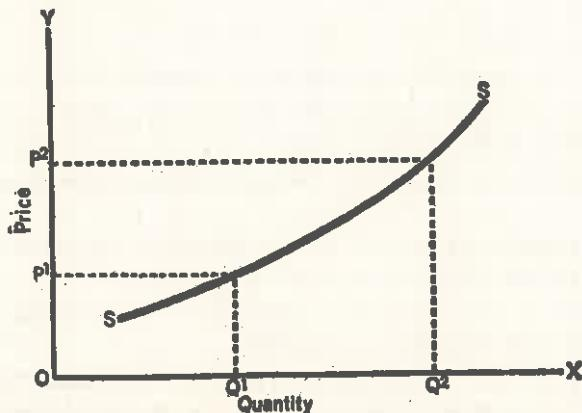

Fig. 35.3. A Supply Curve.
- Fig. 35.3 Shows a supply curve.
- From Fig. 35.3 it can be observed that at the higher price, OP_2 , a greater quantity OQ_2 , will be put on to the market than at the lower price OP_1 ; the amount offered for sale at this price being only OQ_1 .
- Elasticity of supply implies the responsiveness of supply to a change of price, and can be seen from the shape of the supply curve (Fig. 35.3).